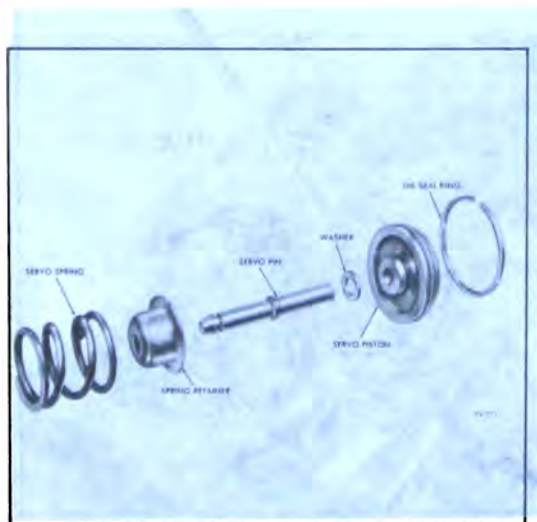

Figure 74-771
1. Install front servo spring and retainer into the transmission case. See Figure 74-771.
4. Install oil seal ring on front servo piston if removed, and install on apply pin so that identification numbers on shoulders are positioned toward bottom pan. See Figure 74-771.